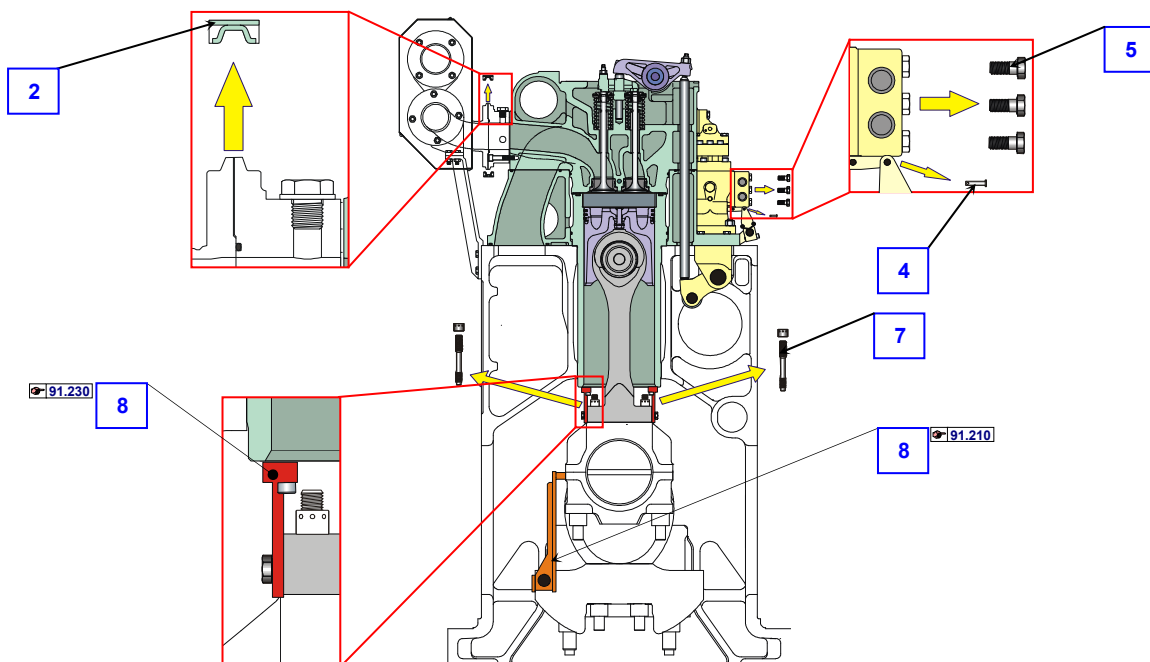

Fig. 2 Mount support device & turning bracket (지지 장치 및 고정구의 설치)
4. Disconnect fuel rack and fuel control lever by taking out connecting pin as shown in fig 2.
8. Mount turning bracket on the big end part and counter weight, and hang up connecting rod shaft to the bottom of cylinder liner by two support devices as shown in fig 2.